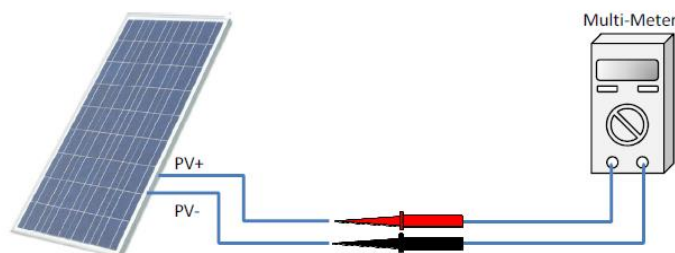

Figure 7.1.2: Polarity checking
- B) For the DC cables, the terminal connectors are recommended to be used with cables in order to ensure the effective electric conduction between DC cables and DC terminals as shown in figure 7.1.2.